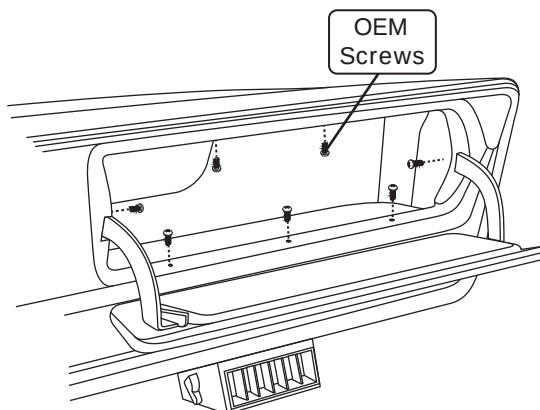

Figure 2a
6. Secure glove box in glove box compartment using OEM screws (See Figure 2a, below).